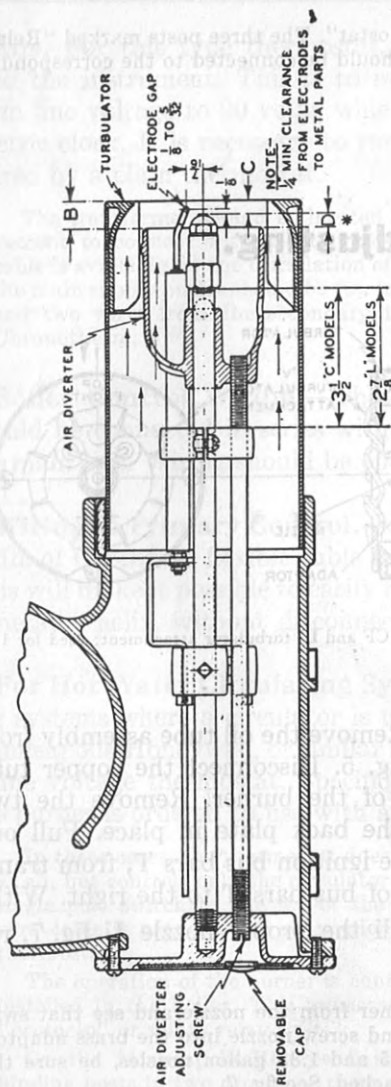

Fig. 8.—Arco air diverter and electrode setting — Models C-CF and L.
3. Check electrodes. Use a ruler to make these measurements. See fig. 8. Gap $\frac{1}{8}$ in. to $\frac{5}{32}$ in. Electrodes are set approximately $\frac{1}{8}$ in. in front of nozzle and $\frac{7}{16}$ in. above the nozzle center. Bare electrode wires shall clear all metal parts by at least $\frac{1}{4}$ in.
Final Adjustments.—1. Important. Be sure that the flame does not lick back into the air diverter W. The base of the flame should float about two (2) inches from end of air tube. This can be seen with a flame mirror. Turning the adjusting screw fig. 8, to open, will cause the flame to float further away from the end of the air tube and vice versa.